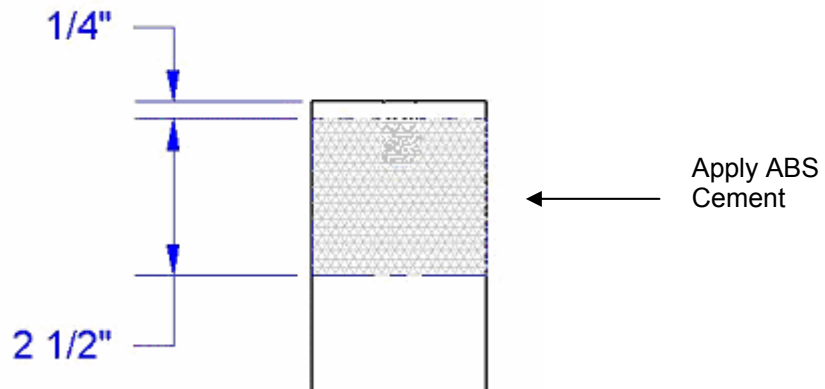

Figure 2 – Casing Preparation. The repair coupler will slide over top and the alignment tool will be used.
3. Apply a thin layer of ABS premium cement (**not PVC cement**), to top of the casing, protruding from the borehole, as shown in Figure 2.